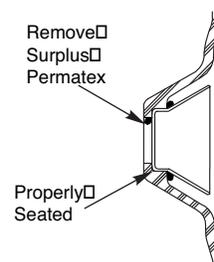

Figure 15
- D. Clean out any surplus Permatex from insert cavity where new seal will be located. See Figure 15.